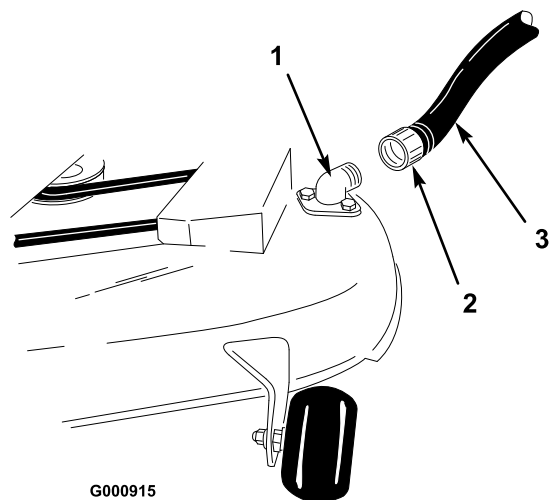

Figure 51
4. Attach the hose coupling to the end of the mower washout fitting, and turn the water on high (Figure 51).